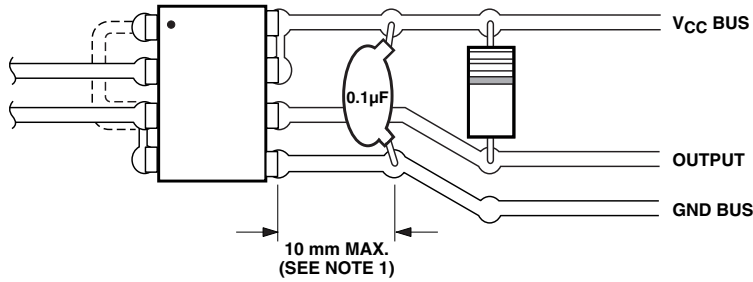

Figure 15. Recommended Printed Circuit Board Layout.
1. Bypassing of the power supply line is required with a 0.1 μF ceramic disc capacitor adjacent to each optocoupler, as illustrated in Figure 15. Total lead length between both ends of the capacitor and the isolator pins should not exceed 10 mm.
8. CM_L is the maximum tolerable rate of fall of the common mode voltage to assure that the output will remain in a low logic state (i.e., $V_{\text{OUT}} < 0.8 \text{ V}$). This specification assumes that good board layout procedures were followed to reduce the effective input/output capacitance as shown in Figure 15.